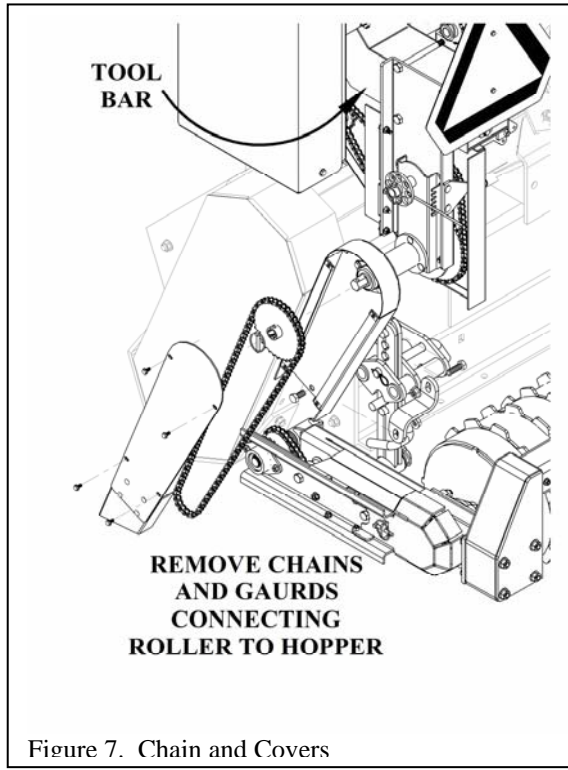

Figure 7. Chain and Covers
- Remove chains and covers connecting the hopper to the cleated roller, Figure 7. In order to remove chain, the train will have to be loosened (4 bolts) and pushed up the tool bar.